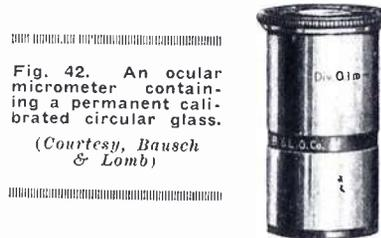

Fig. 42. An ocular micrometer containing a permanent calibrated circular glass. (Courtesy, Bausch & Lomb)
2. An ocular (usually 7.5x) with a permanent calibrated circular glass therein (Fig. 42).